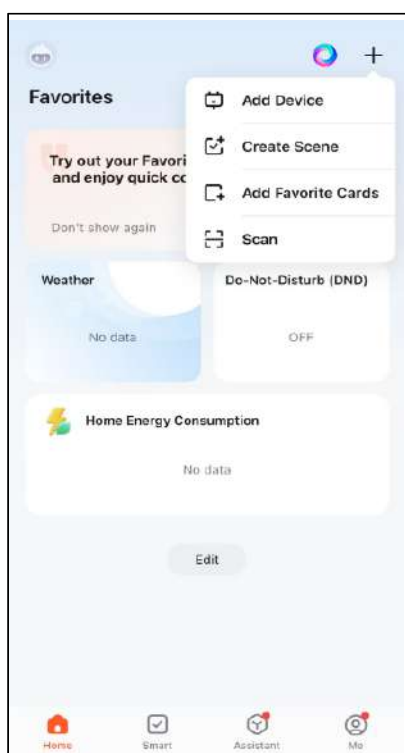
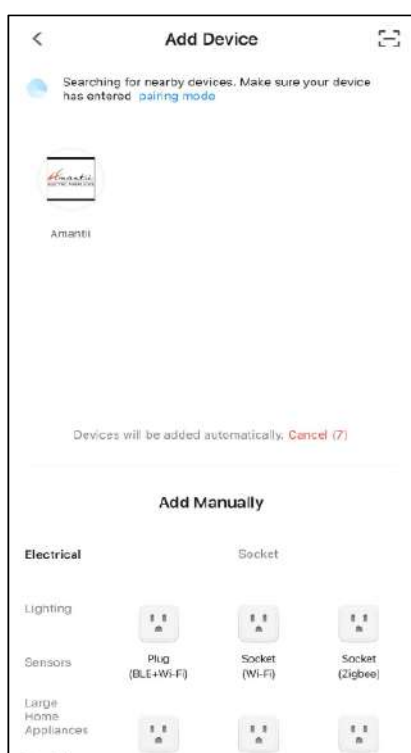

FIG.7
FIG.8
3. When you log in, touch “+” (FIG. 7) to add device (FIG.8).